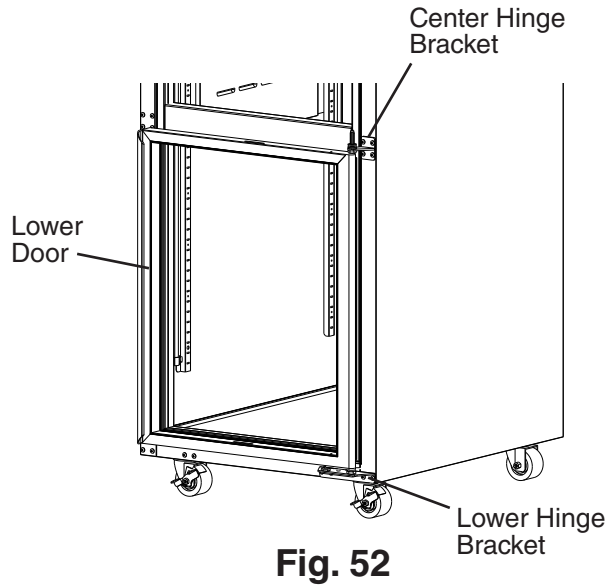

Fig. 52
- 10) Close the lower door. While supporting the lower door, remove the screws supporting the center hinge bracket, then lift the lower door (with center hinge bracket) from the lower hinge bracket and set aside. See Fig. 52.